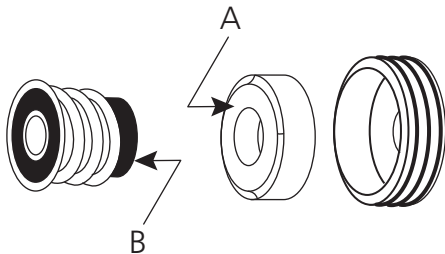
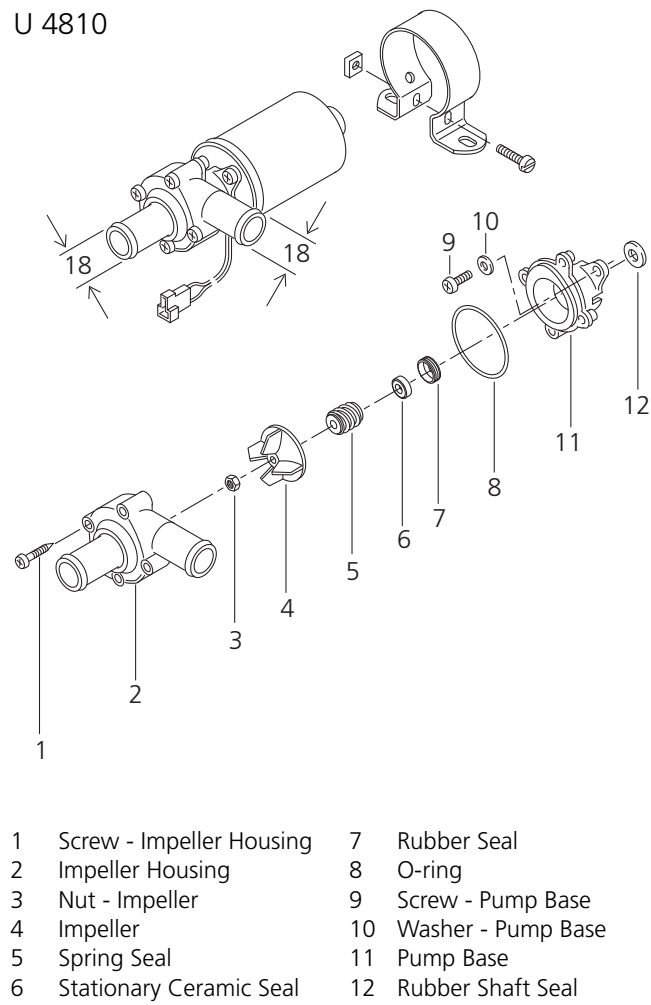
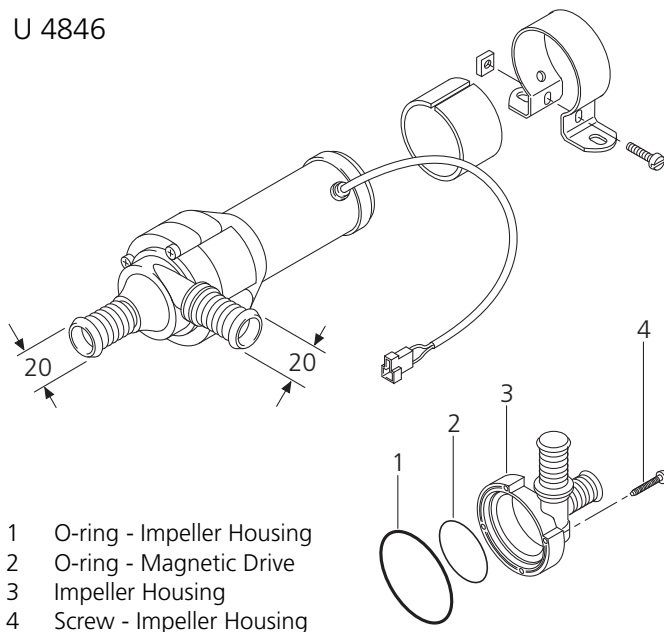

Figure 53: Seal Orientation
Figure 54: U4810 Circulation Pump - Exploded View
Figure 56: U4846 Circulation Pump - Exploded View
3. Assemble pump with all parts in order as shown in Fig. 54 through Fig. 56. The ceramic seal and the spring seal must be fitted as shown in Fig. 53 with the hard side of the spring seal (B) against the ceramic seal face (A).
3. Assemble pump with all parts in order as shown in Fig. 54.